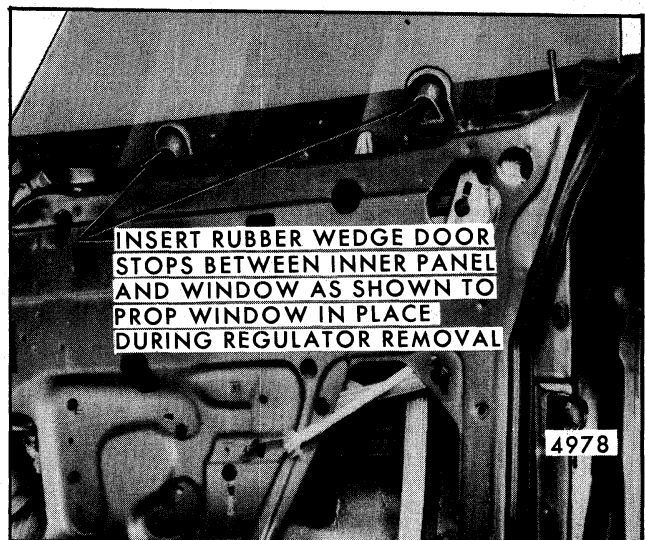

Fig. 5-122-Door Window Propped In Place For Regulator Removal
2. Prop window in full-up position by inserting a rubber door stop between the door inner panel and door glass at front and rear of window (Fig. 5-122).
2. Prop window in full-up position by inserting rubber wedge door stops between window and inner panel (at belt) at front and rear of window (Fig. 5-122).
then drill out rivets ("4", Fig. 5-55) with 1/4" drill bit. Disengage regulator lift arm roller from lower sash channel cam and prop window in full-up position using two rubber door wedge stops between inner panel at belt and door window as shown in Figure 5-122. On manual styles, remove regulator assembly through large access hole. On electric styles, rotate regulator so that motor portion of regulator comes out access hole first.
NOTE: On "B" closed styles, raise window to full-up position and prop in place with two rubber wedge door stops between inner panel (at belt) and door window as shown in Figure 5-122.
2. Prop window in half-raised position with rubber door stop wedges as shown in Figure 5-122.